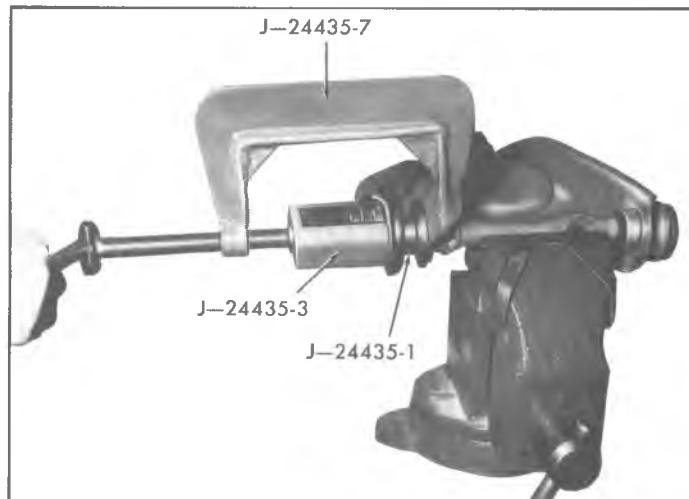

Fig. 32A—Upper Control Arm Rubber Bushing Removal
Upper Control Arm Inner Pivot Shaft and/or Bushing Replacement**C10, G10-20 (Rubber Bushings)****Removal (Fig. 32A)**
2. Install remover J-24435-1, receiver J-24435-3 and "C" clamps J-24435-7 as shown in Figure 32A.